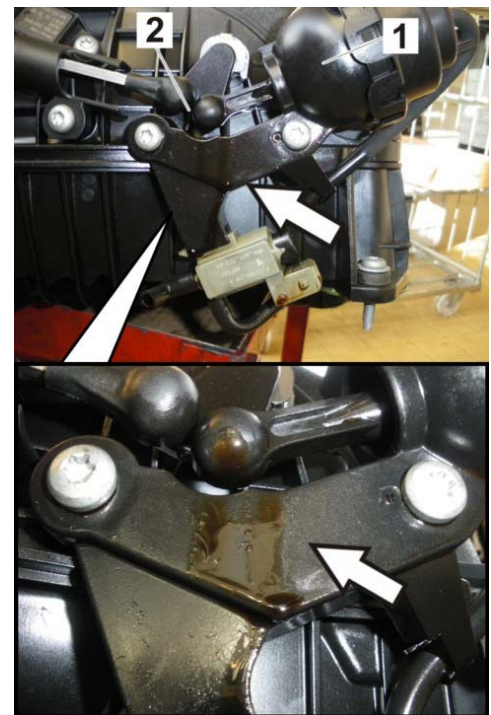

Figure 2
- 3 If the vacuum unit ⇒ *Figure 2-1-* or intake-air distributor switching mechanism ⇒ *Figure 2-item 2-* as shown in ⇒ *Figure 2-arrow-* has visible **traces of oil**, ⇒ **continue** with **Step 4** and **first** replace both seals on the coolant regulator housing (**Scope 3**).